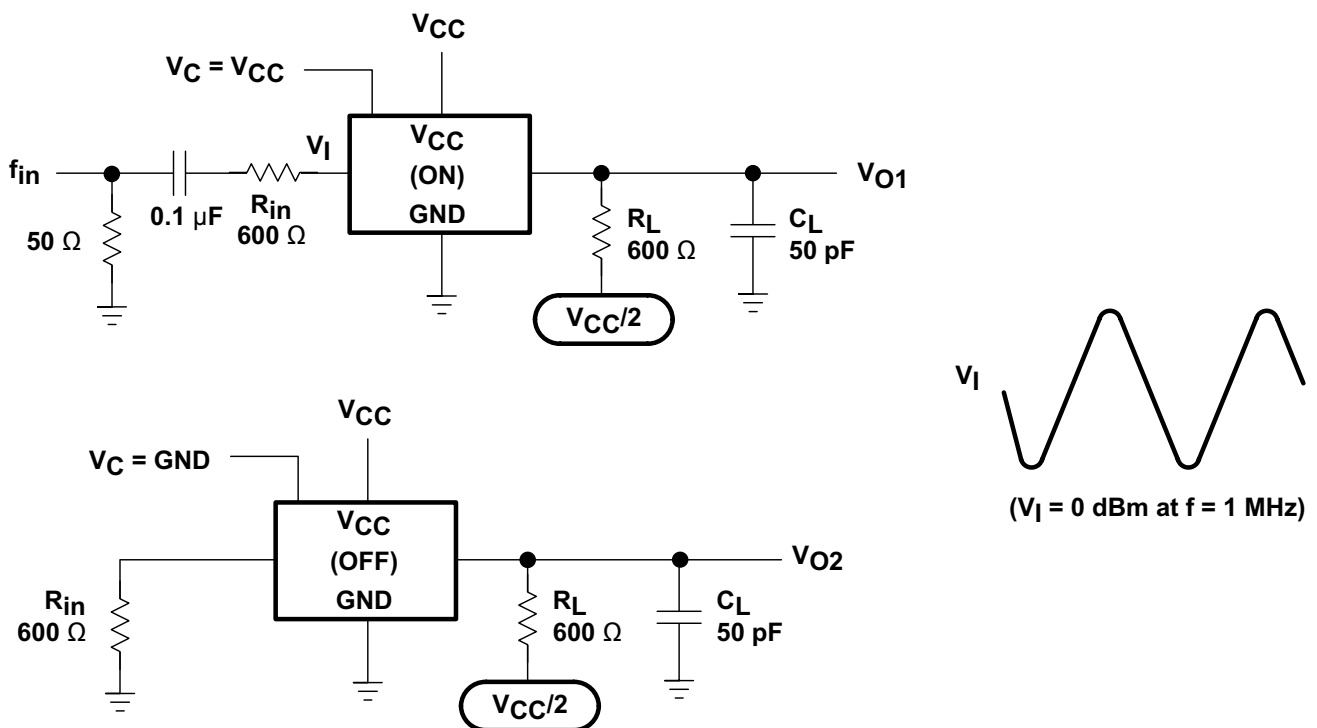

Figure 10. Crosstalk Between Any Two Switches
| Crosstalk between any switches (2)                                                                  | C L = 10 pF, f in = 1 MHz, R L = 50 Ω (see Figure 10)          | 45    | dB   |